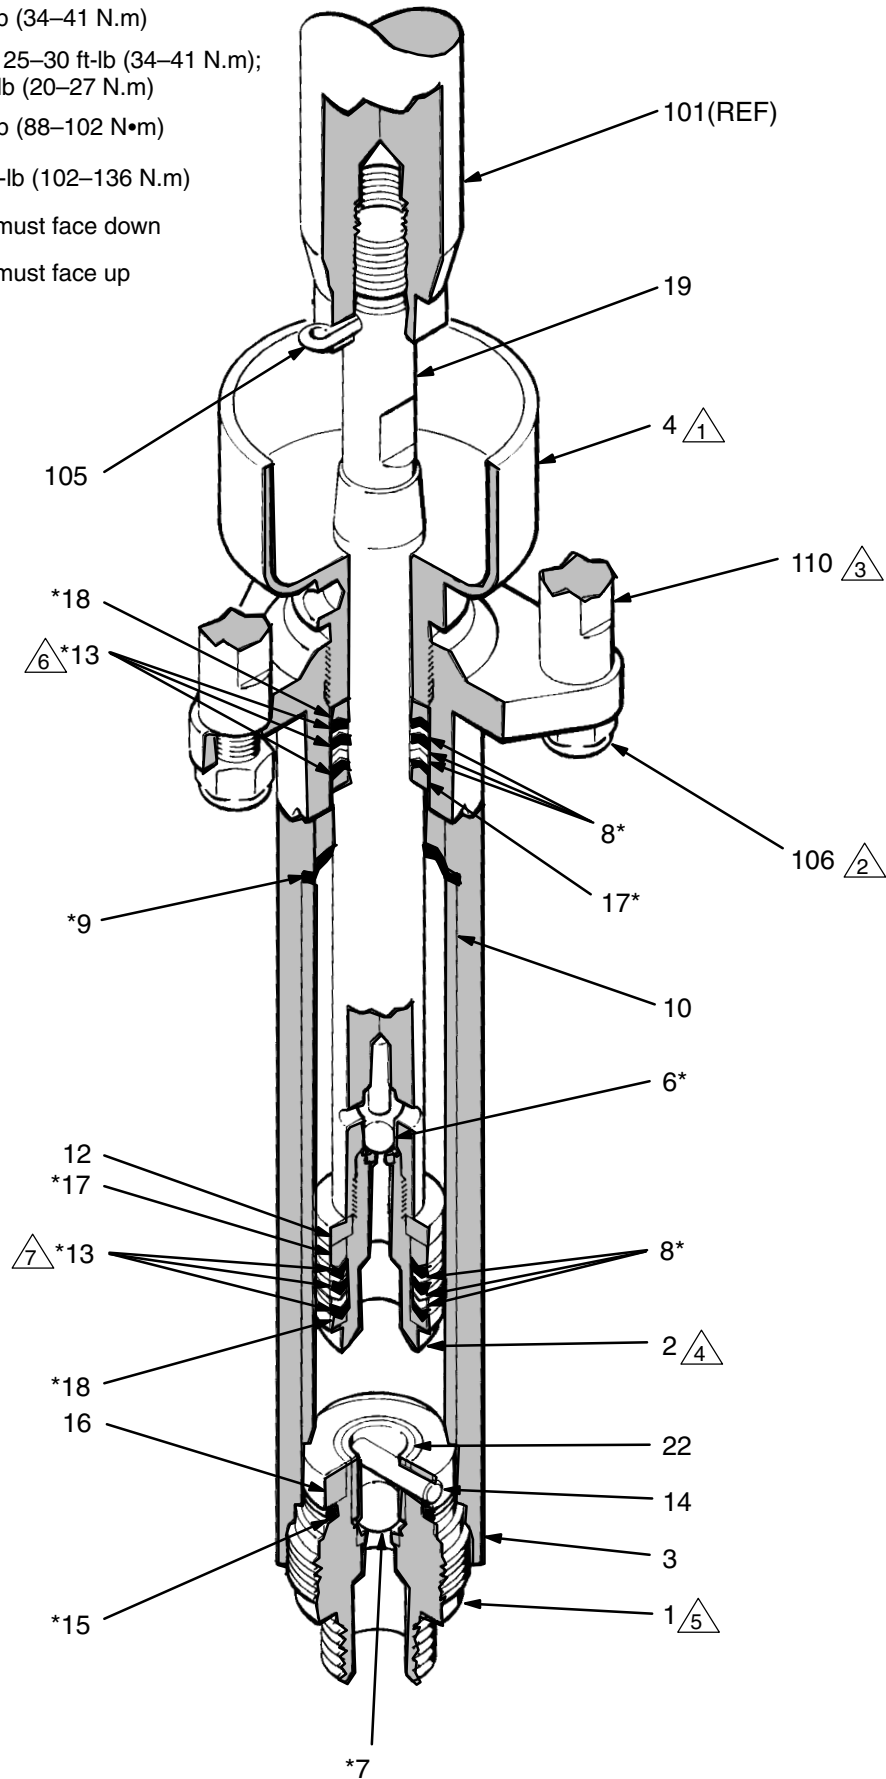

Fig. 4
When disassembling the pump, lay out all removed parts in sequence, to ease reassembly. Refer to Fig 4.
2. Unscrew the intake valve housing (1) from the outlet housing (3). If it is difficult to remove, squirt penetrating oil around the threads and *gently* tap around the valve housing with a plastic hammer to loosen it. See Fig 4.
3. Remove the ball stop pin (14), o-ring retainer (16), o-ring (15), guide (22) and ball (7) from the intake valve housing (1).
4. Loosen the packing nut (4). Push the displacement rod (19) down as far as possible, then pull it out the bottom of the outlet housing (3).
5. Secure the flats of the piston stud (2) in a vise. Using a wrench on the flats of the displacement rod (19), screw the rod off the piston. Remove the ball (6), retainer (12), packings (8, 13) and glands (17, 18).
6. Remove the packing nut (4), throat packings (8, 13) and glands (17, 18) from the outlet housing (3).
7. Inspect all parts for damage. Clean all parts and threads with a compatible solvent before reassembling. Inspect the polished surfaces of the displacement rod (19) and sleeve (10) for scratches, scoring or other damage, which can cause premature packing wear and leaking. To check, run a finger over the surface or hold the part up to the light at an angle. Be sure the ball seats of the piston (2) and intake valve housing (1) are not chipped or nicked. Replace any worn or damaged parts.
1. Lubricate the throat packings and install them in the outlet housing (3) one at a time as follows, *with the lips of the v-packings facing down*: the male gland (17*), one PTFE v-packing (13*), two leather v-packings (8*), one PTFE (13*), one leather (8*), one PTFE (13*), and the female gland (18*). Install the packing nut (4) loosely. See Fig 4.
2. If you removed the sleeve (10), reinstall it in the outlet housing (3), making sure to replace the gasket (9*). *Be sure the tapered end of the sleeve faces down, toward the pump intake.*
3. Lubricate the piston packings and install them onto the piston stud (2) one at a time in the following order, *with the lips of the v-packings facing up*: the female gland (18*), one PTFE v-packing (13*), two leather v-packings (8*), one PTFE (13*), one leather (8*), one PTFE (13*), the male gland (17*), and the packing retainer (12). See Fig 4.
4. DO NOT use thread sealant on the piston stud. Install the piston ball (6*) on the piston and screw the piston valve assembly into the displacement rod (19). Torque to 65–75 ft-lb (88–102 N.m).
5. Insert the displacement rod (19) into the bottom of the outlet housing (3), being careful not to scratch the sleeve (10). Push the rod straight up until it protrudes from the packing nut (4).
6. Install the ball (7*), guide (22), o-ring (15*), retainer (16), and ball stop pin (14) in the intake valve housing (1). Screw the intake housing into the outlet housing (3). Torque to 75–100 ft-lb (102–136 N.m).